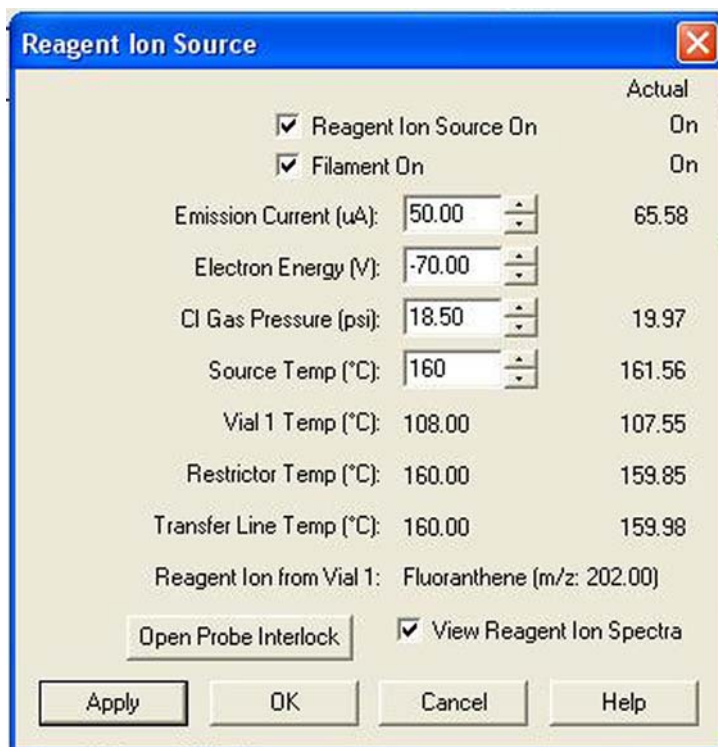

Figure 1-20. Reagent Ion Source dialog box
The reagent heaters are turned on by selecting the Reagent Ion Source On check box in the Reagent Ion Source dialog box. See Figure 1-20.
When the reagent heaters are in Standby mode, they are immediately turned on by selecting the Reagent Ion Source On check box (Figure 1-20 on page 1-27). When starting from room temperature, it takes up to ten minutes for the reagent heaters and vials to stabilize at 108 °C and reagent to delivered to the ion source.
- The reagent heaters turn off immediately when the Reagent Ion Source On check box is deselected in the Reagent Ion Source dialog box. (See Figure 1-20 on page 1-27.)